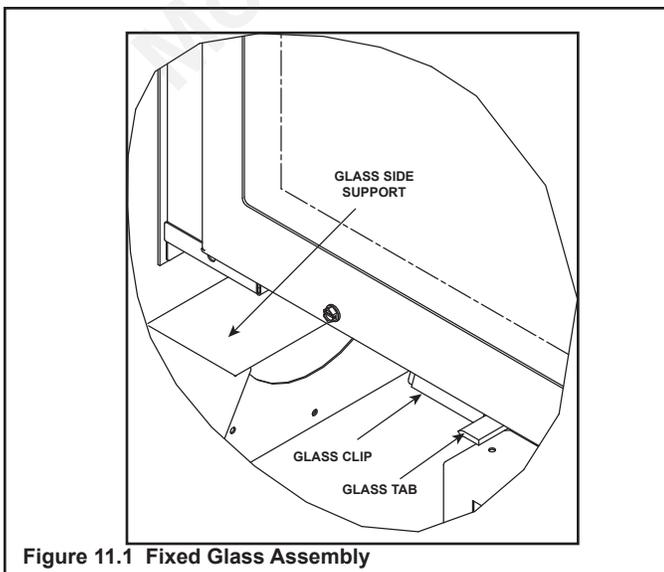

Figure 11.1 Fixed Glass Assembly
3. Use both index fingers to release spring latches. See Figure 11.1.
4. Allow glass to tilt forward. Grasp glass on the upper return lip of glass frame and tilt glass “out” and “down”. Lower gently to rest on side supports. See Figure 11.1. Allow top of glass assembly to tilt forward. Lift glass assembly “up” and “out”.
4. Hold bottom of the glass as you allow the glass assembly to seat over the two lower glass clips. See Figure 11.1.